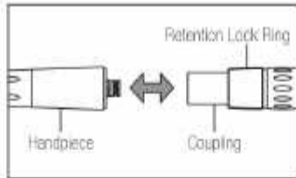

Fig. 3
3) Insert the handpiece into the coupling until it clicks in, as shown in figure 3.
4) To remove the handpiece, pull back the retention lock ring on the coupler and remove the handpiece, and as shown in figure 3.